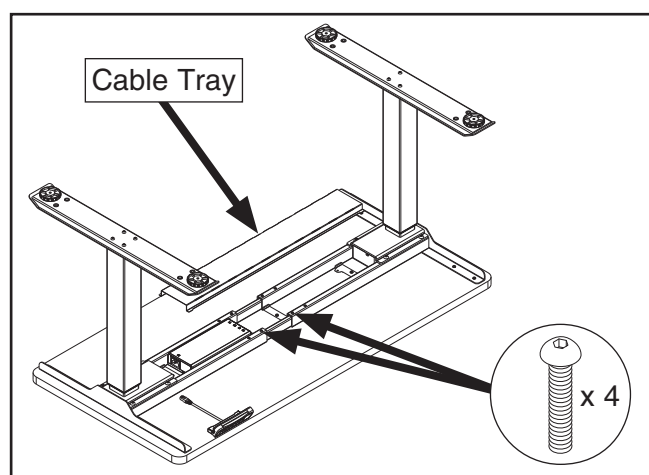

Figure 10. Installing cable tray when leg width is *less than* 67 $\frac{3}{4}$ ".
11. Install (2) M6-1 x 10 button head cap screws on one side of rails, as shown in **Figure 10**. Then position edge of cable tray under heads of cap screws. Only hand-tighten for now.
12. Install (2) M6-1 x 10 button head cap screws on opposite side of rails, as shown in **Figure 10**. Capture opposite edge of cable tray under heads of cap screws, then tighten all four screws.